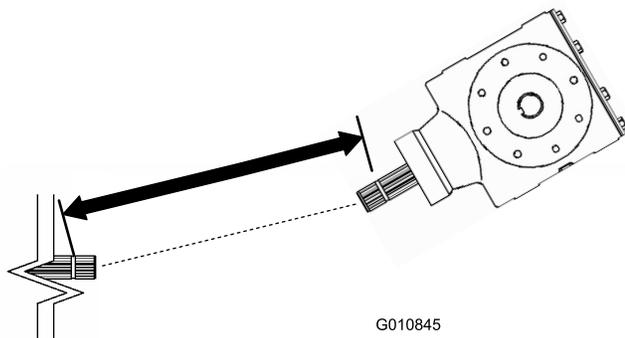
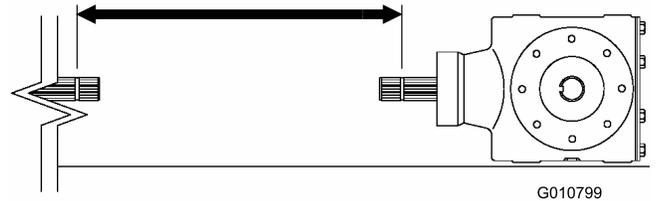
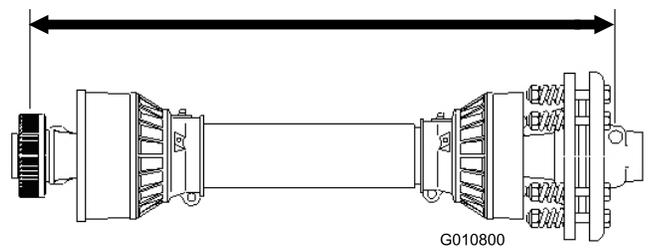

Figure 12
Figure 14
Figure 15
3. Measure the distance from the locking groove on the end of the tractor PTO shaft to the locking groove on the aerator gearbox PTO shaft (Figure 12). Record this distance. Example: 26.5 inches (67 cm).
5. Measure the distance from the locking groove on the end of the tractor PTO shaft to the locking groove on the aerator gearbox PTO shaft (Figure 14). Record this distance. Example: 27.5 inches (70 cm).
6. On the PTO shaft, measure the distance from the center of locking pin ball on one end to the center of the locking pin on the other end (Figure 15). Record this distance. Example: 32 inches (81 cm).
7. Using the smaller of the two measurements in Figure 14 and Figure 12, subtract that distance from the distance in Figure 15. Example 32 (81 cm) inches minus 26.5 inches (67 cm) equals 5.5 inches (14 cm).